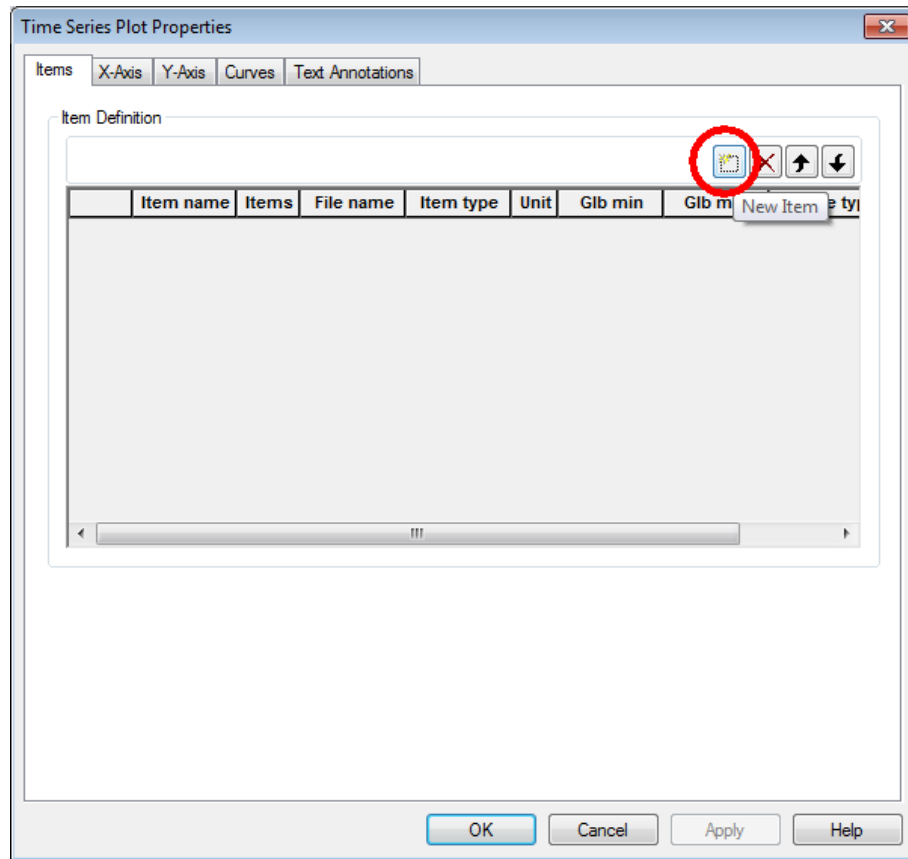

Figure 2.17 Add new time series to plc plot
- Under 'Current Expression', type $i3=i3 - (\text{insert initial value for item 3})$
6. Click on 'New Item', cf. Figure 2.17.